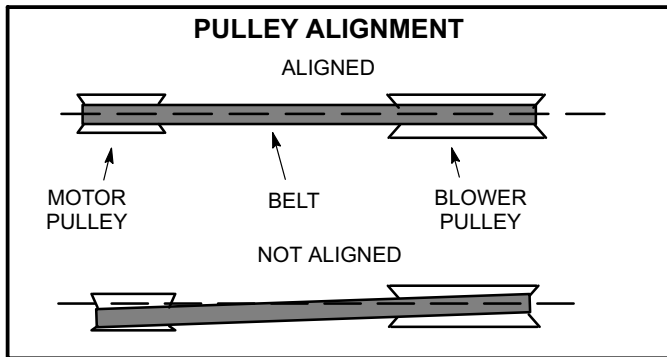

FIGURE 7
Maximum life and wear can be obtained from belts only if proper pulley alignment and belt tension are maintained. Tension new belts after a 24-48 hour period of operation. This will allow belt to stretch and seat grooves. Make sure blower and motor pulley are aligned as shown in figure 7.
- 5- Check and adjust belt alignment as needed. See figure 7.